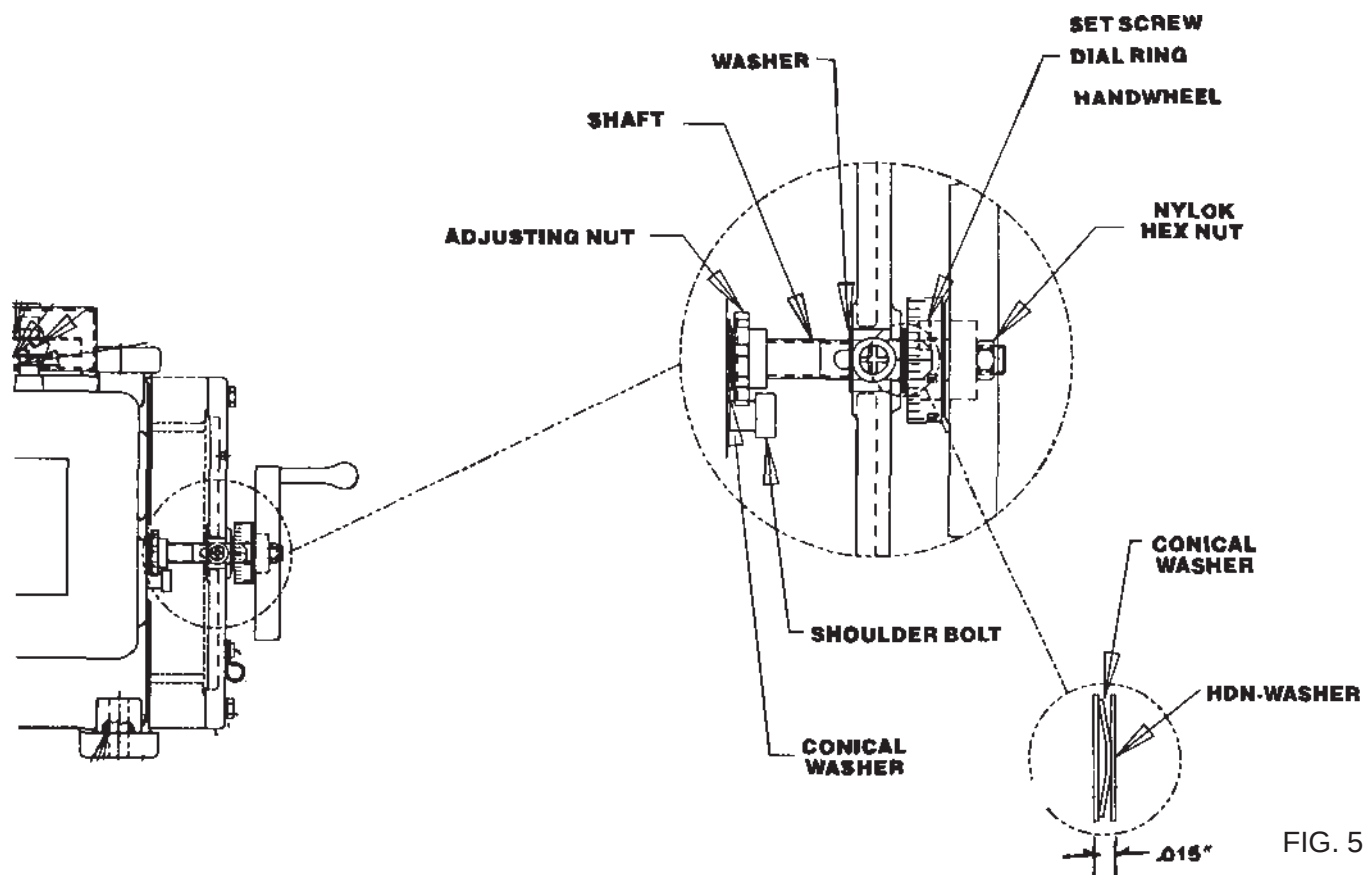

FIG. 52
- C. Check for .015 in [.4 mm] gap between the wave washer and flat washer. See insert to FIG. 52. Readjust the hex nut if necessary.